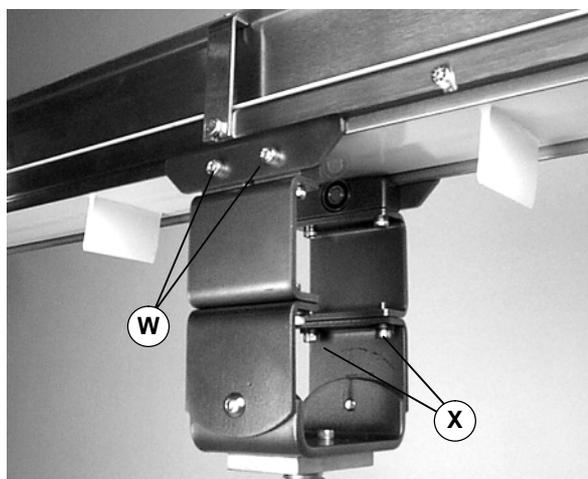

Figure 10
3. Attach clamp plates on each side of conveyor (Figure 10). Tighten the screws (W) to 9 Nm.